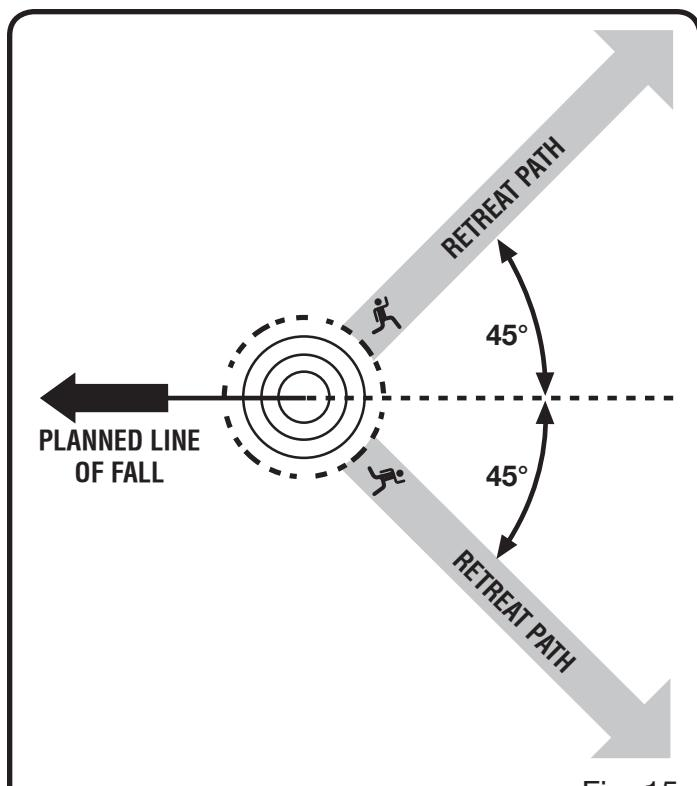

Fig. 15
See Figure 15.
See Figures 15 - 18.
■ Before any cuts are started, pick your escape route (or routes in case the intended route is blocked); clear the immediate area around the tree and make sure there are no obstructions in your planned path of retreat. Clear paths of safe retreat should extend back and diagonally (45°) to the rear of the planned line of fall. When the tree begins to fall, you should retreat away from the direction of fall along a retreat path and at least 20 feet away from the trunk in case it kicks back over the stump. See *Figure 15*.